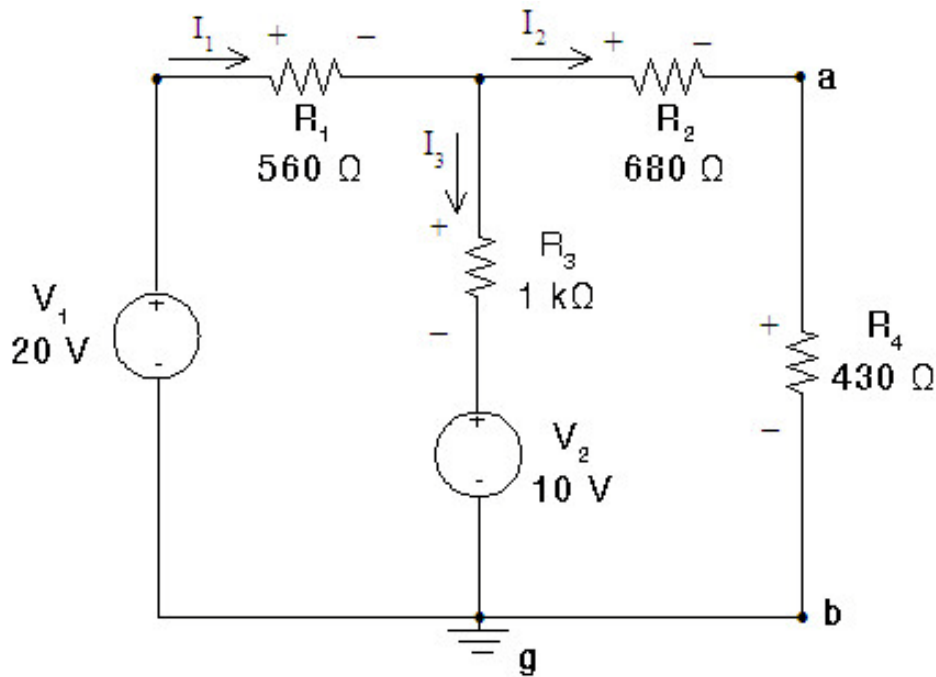

Figure 2 Circuit for Superposition, Thévenin Equivalent and Maximum Power Transfer
1. Solve the circuit of Figure 2 using the principle of superposition. That is, determine the currents through all the elements and voltages across all elements. Record the answers in Table 3.
2. Again, consider the circuit of Figure 2. Determine the Thévenin equivalent of the circuit with respect to the nodes a-b with the resistor R_4 removed. Use this Thévenin equivalent circuit to determine the current through the resistor R_4 and the voltage across it. Redraw the circuit using the Thévenin equivalent. Change R_4 to 1.5 k Ω and 2.2 k Ω and calculate the current through the resistor R_4 and the voltage across it using Thévenin equivalent of the circuit. Record the calculated values in Tables 4 and 5.
3. Determine the value of a resistor R_L to be connected between nodes a and b (Figure 2, *without* R_4) so that it consumes the maximum power. Determine the maximum power delivered to the resistor R_L .
- 2.2.1 Construct the circuit of Figure 2. Ensure that the voltage sources are exactly 20 V and 10 V after they are connected in the circuit using the DMM.
- 2.2.2. Measure the three currents in the circuit (note the direction) indicated in Figure 2. Record these reading in Table 3.
- 2.2.3 Measure the voltage across each resistor in the circuit with the polarity as shown in Figure 2. Record these reading in Table 3.
Table 3 Superposition in Linear Circuits (Figure 2)
2.3.1 Connect the circuit shown in Figure 2 with both voltage sources. Remove the R_4 (430Ω) resistor from the circuit. Switch on the power supply and ensure that the voltage sources are exactly 20 V and 10 V. Measure the voltage across the open circuit terminals (a-b). This is the Thévenin equivalent voltage. Record this value in Table 4.
Table 4 Thévenin equivalent circuit (Figure 2)